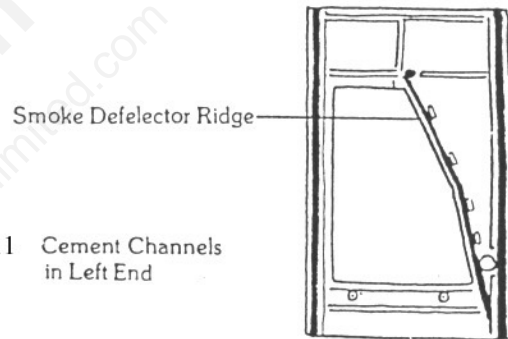

FIG. 11 Cement Channels in Left End
- Position the baffle in the stove with the front edge in the vertical groove in the front plate and the rear edge against the side of the stove. (Fig. 11).